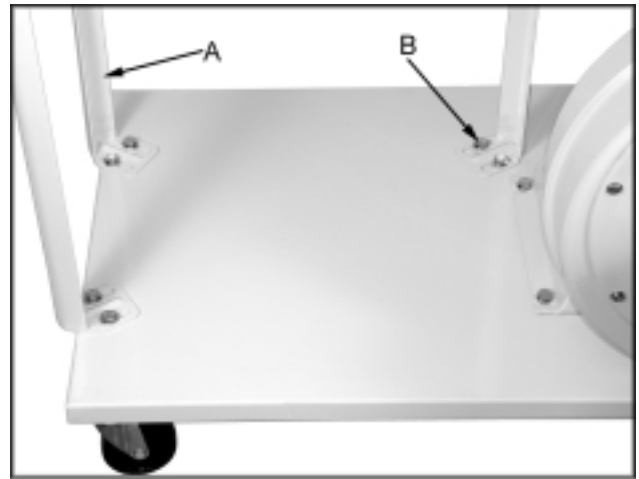

Fig. 4
4. Attach three support brackets (A, Fig. 4) to the base using six M8 x 16 hex cap bolts and six M8 flat washers (B, Fig. 4). Hand tighten only at this time.